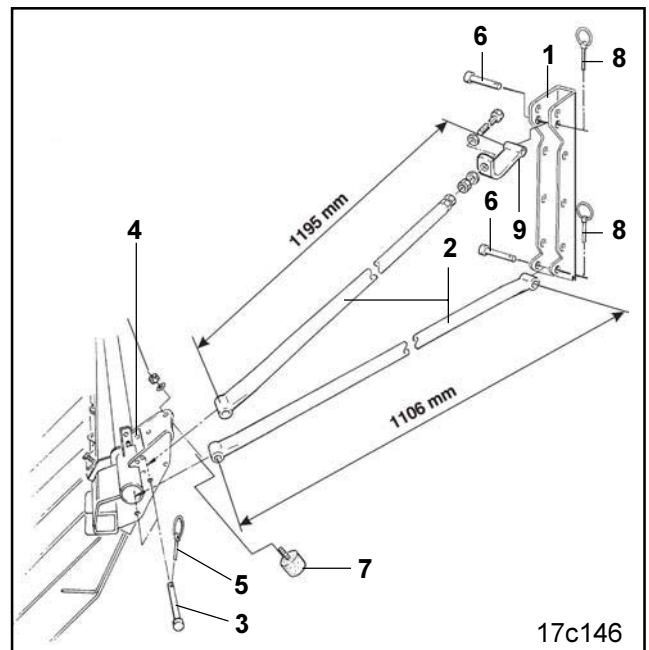
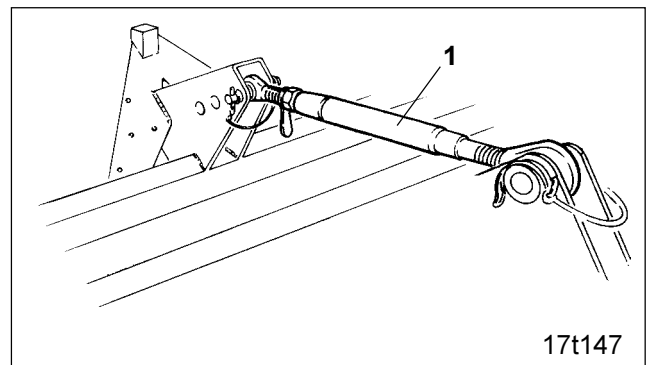

Fig. 25.3
Fig. 25.7
Bolt the pockets (Fig. 25.3/1) to the side parts of the seed rail.
- Bolt on swing-metal buffer (Fig. 25.3/7).
- Locate fixing tubes (Fig. 25.3/2) with pins (Fig. 25.3/3) on the fixing brackets (Fig. 25.3/4) of the extra coverage following harrow and secure by using clip pins (Fig. 25.3/5).
- Locate fixing tubes (Fig. 25.3/2) with pins (Fig. 25.3/6) on the pockets (Fig. 25.3/1) and secure with clip pins (Fig. 25.3/8).
This setting is conducted by lengthening or shortening the upper link (Fig. 25.7/1) with which the seed rail is fixed.
If the space for adjusting the upper link (Fig. 25.7/1) is not sufficient, the length of the upper fixing tubes on the brackets (Fig. 25.3/9) can be readjusted.